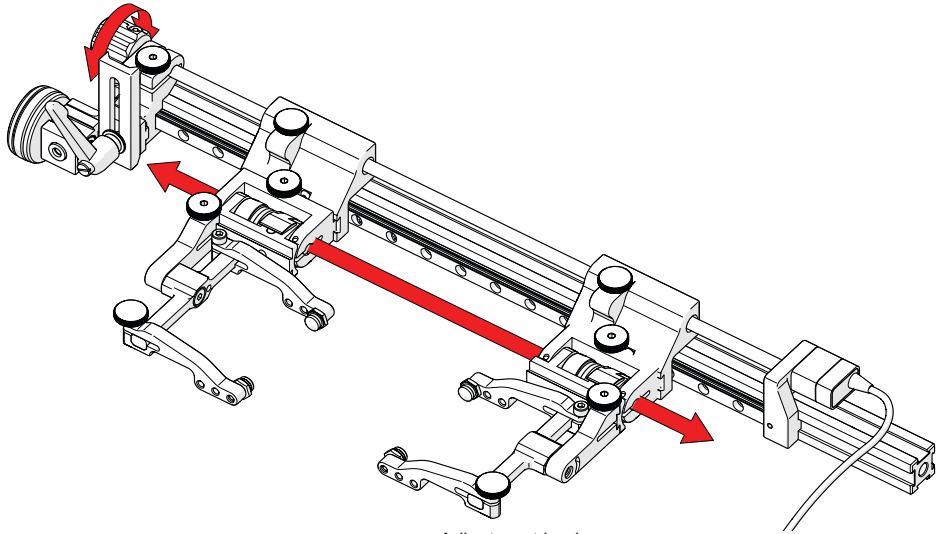
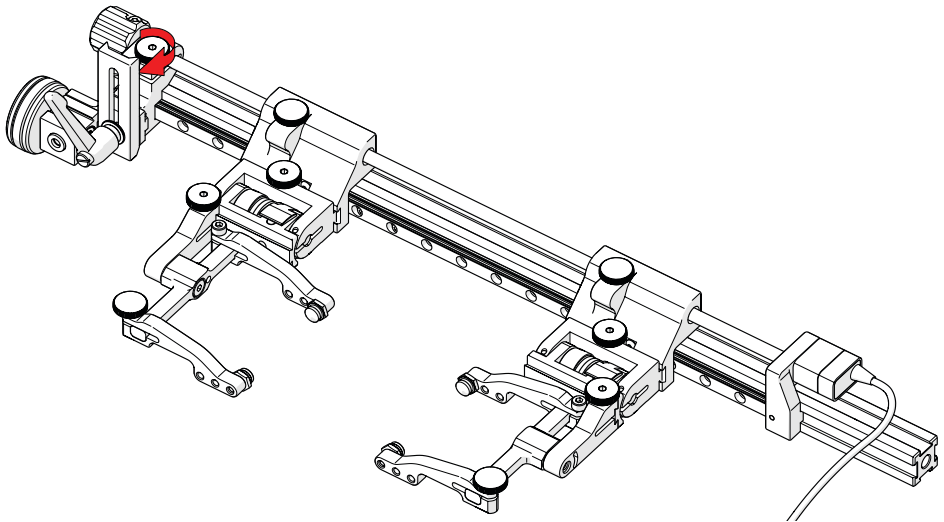

Fig. 28 - Adjustment knob
Fig. 29 - Position lock knob
4. Ensure the leadscrew lock knob (Fig. 29) is loose. Use the PPS adjustment knob to position both carriages simultaneously (Fig. 28).
5. The PPS lock knob prevents the leadscrew from movement once scanning is underway (Fig. 29).